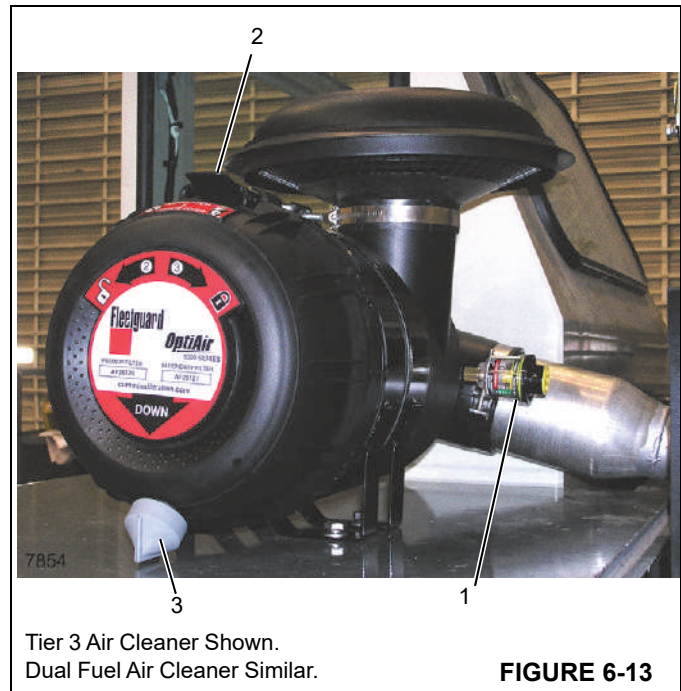

FIGURE 6-13
The Tier 3 and dual-fuel air cleaner is equipped with a restriction indicator (1, Figure 6-13) that gives a visual indication when it is time to change the air cleaner elements.
5. Reset the restriction indicator (Figure 6-13) by pushing in the reset button.